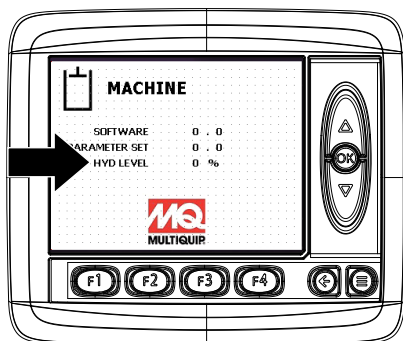

Figure 24. Hydraulic Oil Level Display
4. Press the **down arrow button** to scroll downward until **HYD LEVEL** (Figure 24) is displayed on the screen. The hydraulic oil level should be 20–75% when the oil is cold.